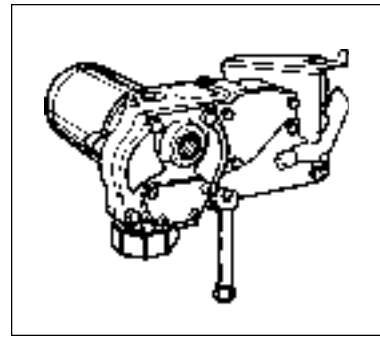

Figure 14
2. Remove the switch coverplate from the pump housing. (Figure 14)